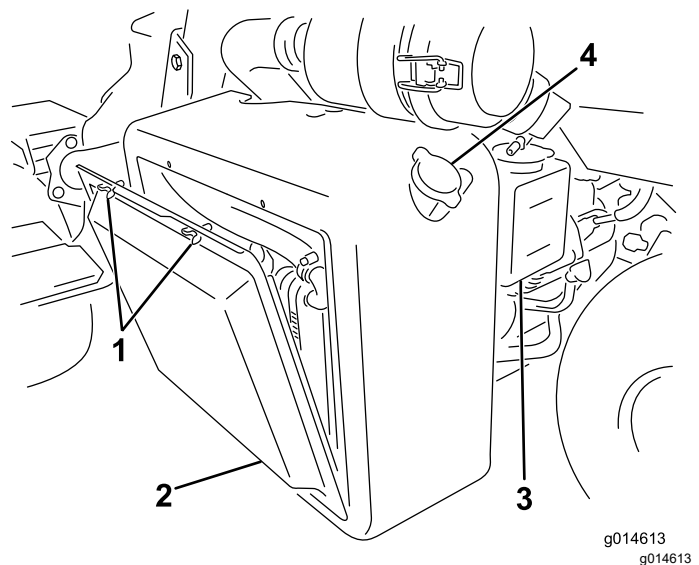
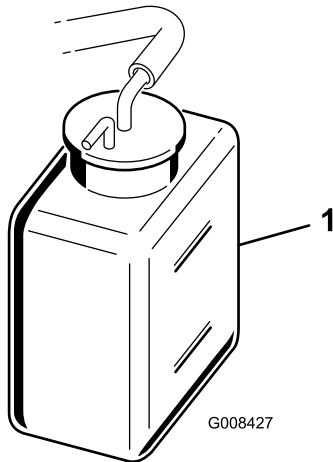

Figure 56
Figure 57
1. Remove the radiator screen (Figure 56).
2. Check the coolant level (Figure 56 and Figure 57).